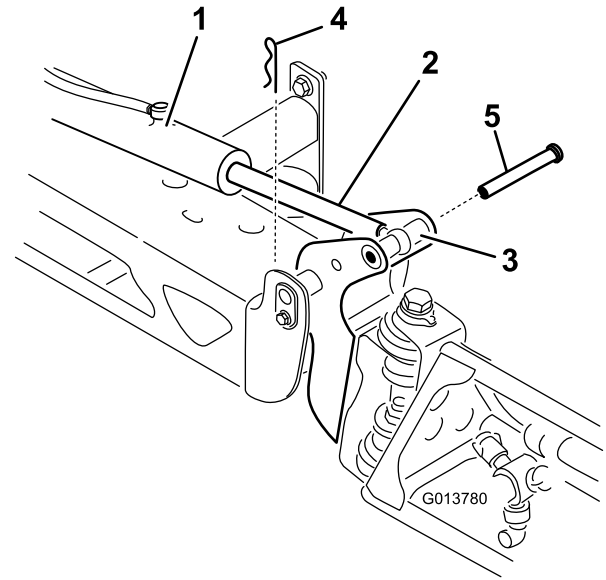

Figure 70
2. Remove the hairpin from the clevis pin (Figure 70).
3. Lift up on the section, remove the clevis pin, and slowly lower the section to the ground (Figure 70).
7. While supporting the spray section, insert the clevis pin through both boom pivot and actuator rod (Figure 70).